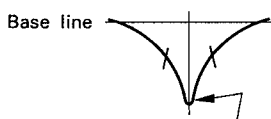

Fig. 8
1. Feed in a weak signal from the genescope. Adjust T202 for maximum gain and the waveform of Fig. 8.